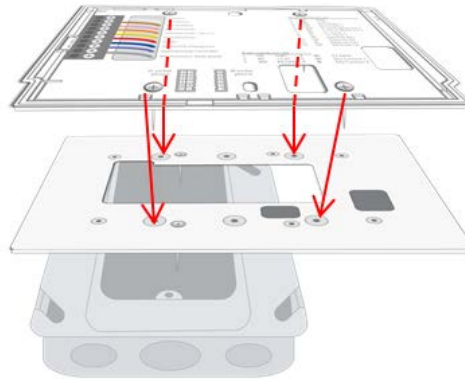

Figure 18: Back Plate on Adapter Plate
- Step 25 Mount SS6000 backplate on top of JBOX adapter, using four #5 1/2" coarse thread screws. See Figure 18.